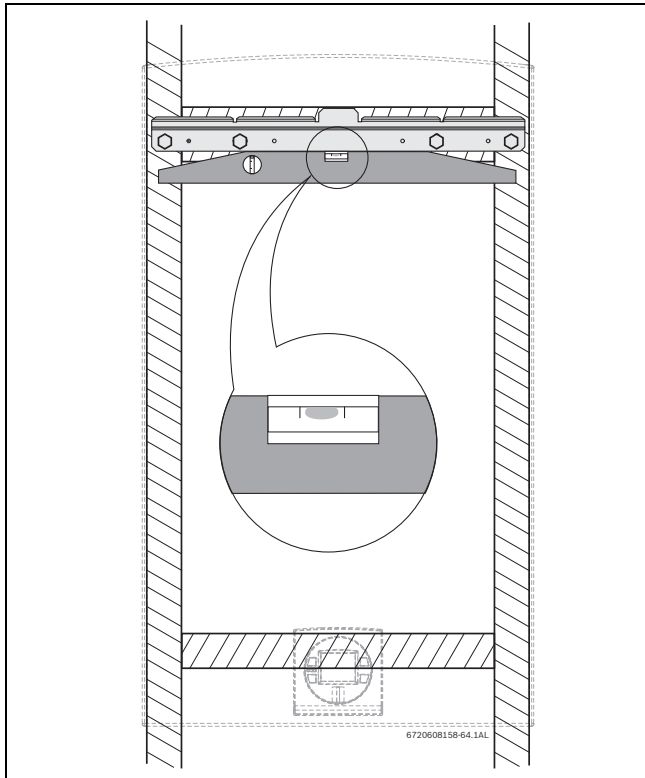

Fig. 32 Leveling wall mounting bracket
- ▶ Secure the wall mounting bracket provided with the heater to a wall surface. The heater must be kept level on the wall surface, see fig. 32, page 28.